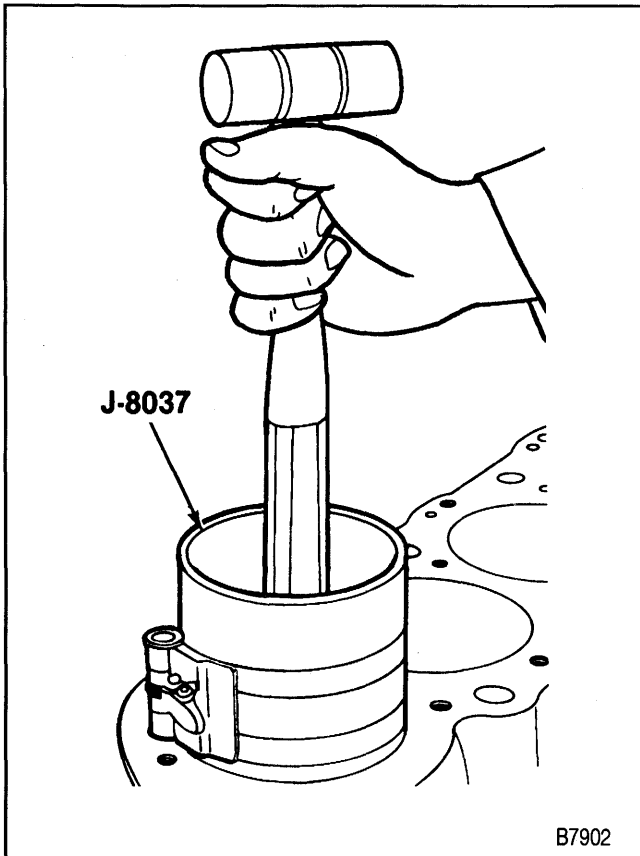

Figure 30—Installing the Piston and Connecting Rod
- C. Without disturbing the ring end gap location, install J 8037 over the piston (figure 30).
- E. Place the piston in its matching bore. Using light blows with a hammer handle, tap the piston down into its bore (figure 30). At the same time, from beneath the vehicle, guide the connecting rod to the crankpin with the pieces of hose. Hold the ring compressor against the block until all rings have entered the cylinder bore.